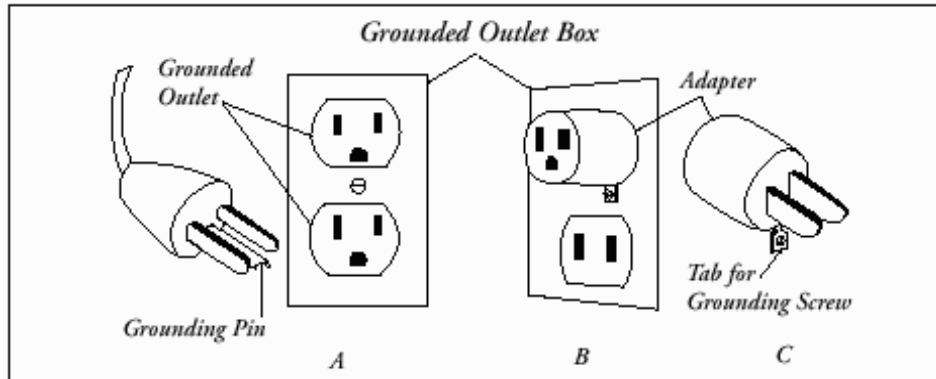

Fig.1: Grounding Instruction
- a) This product is for use on a normal power circuit, and has a grounding plug that looks like the plug illustrated in sketch A in Figure 1 below. A temporary adapter that looks like the adapter illustrated in sketches B and C may be used to connect this plug to a 2-pole receptacle as shown in sketch B if a properly grounded outlet is not available. **The temporary adapter should be used only until a properly grounded outlet (sketch A) can be installed by a qualified electrician.** The green colored rigid ear, lug, or the like extending from the adapter must be connected to a permanent ground such as a properly grounded outlet box cover. Whenever the adapter is used, it must be held in place by a metal screw.
- b) This product is for use on a normal power circuit, and has a grounding plug that looks like the plug illustrated in sketch A in the Figure 1 below. Make sure that the product is connected to an outlet having the same configuration as the plug. **No adapter should be used with this product.**